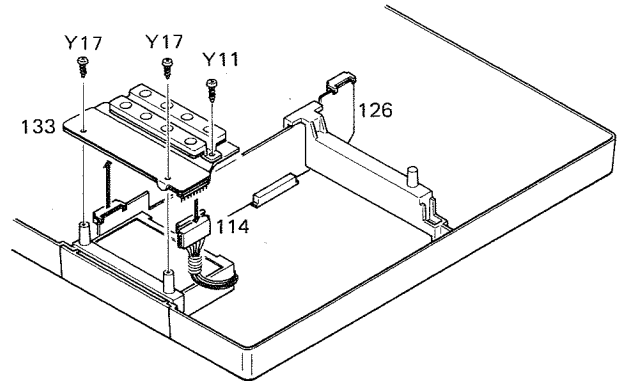

Fig. 3
### C. Removing printed circuit boards (cf. Fig. 3 to 8)
1. Remove the three screws (2 marked Y17 and 1 marked Y11) and detach the 10-pin socket (114) from the connector PCB (126). Then, you can remove the FM "touch" tuning PCB (133). (cf. Fig. 3)